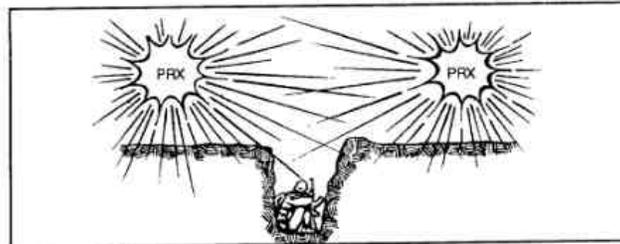

Figure B-8. Targets in open fighting positions.
c. The PRX setting is also the most effective if the enemy is in open fighting positions, without overhead cover. Even PRX settings will not always produce effects if the positions are deep (Figure B-8).